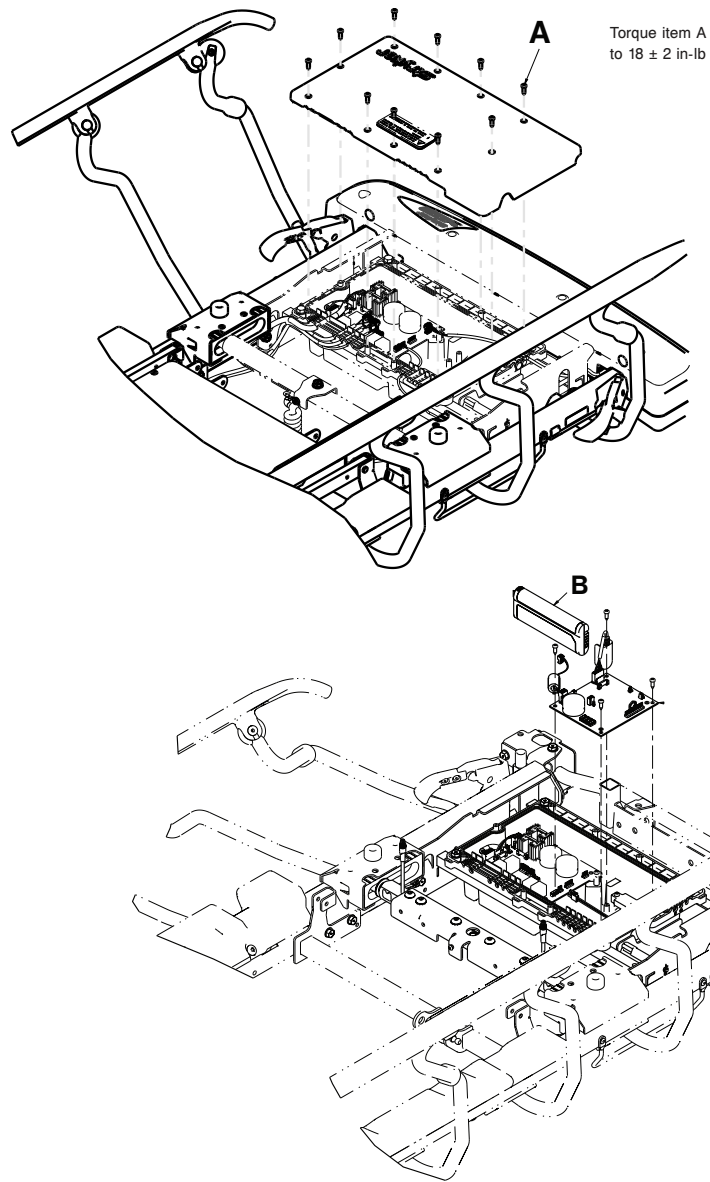

Figure 54 – Scale battery replacement - electric
5. Using a #2 Phillips screwdriver, remove the 10 pan head tapping screws (A) that secure the control board cover on the scale/**Chaperone** control box bottom (Figure 54).